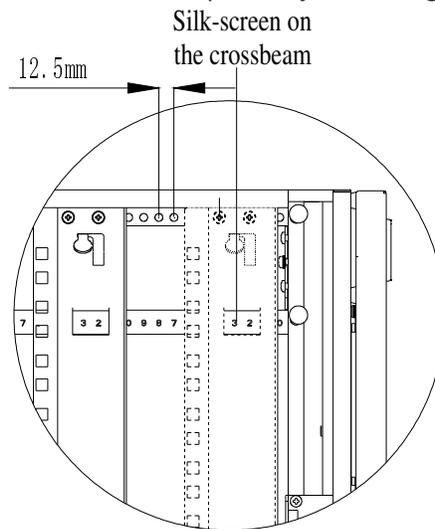

Figure 3-2 Diagram of Crossbeam Silkscreen
2. The left front EIA rail can be moved by using the same method as mentioned in step 1, so that the left front EIA rail is aligned with the right front EIA rail, as shown in Figure 3-2, the mounting hole spacing on the crossbeam is 12.5mm, and the silkscreen on the upper crossbeam helps to adjust the alignment of the left and right EIA rails.